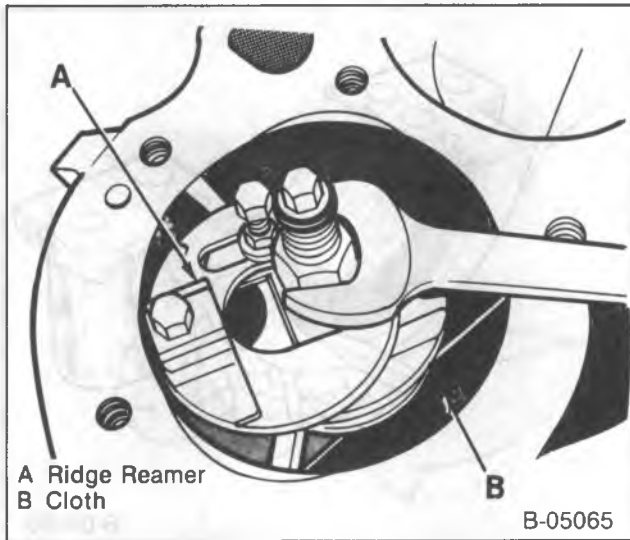

Figure 20—Removing the Cylinder Ridge
↔ Remove or Disconnect (Figures 20 and 21)
- Using the manufacturer's directions, install a ridge reamer into the top of the cylinder (figure 20). Perform the cutting operation.